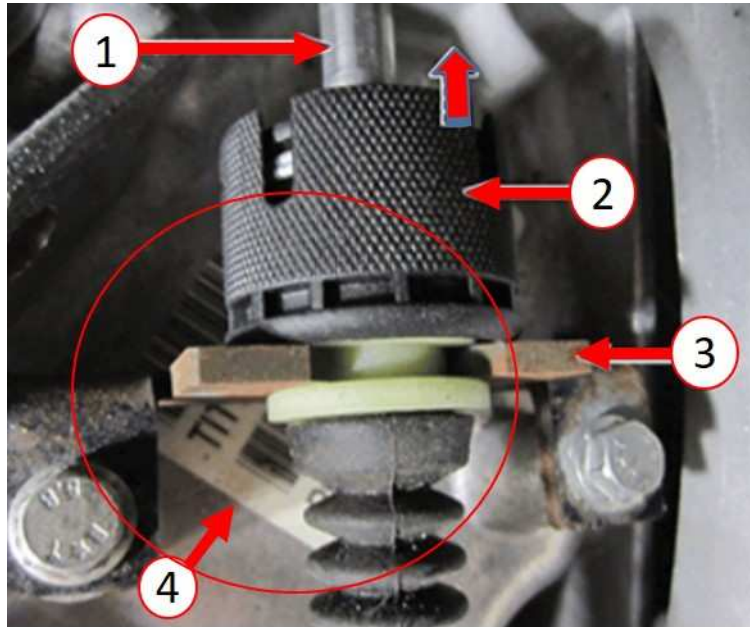

Fig. 1
1. Inspect the transmission tag located under the shifter cable, for the plant code and build date (Fig. 1) .